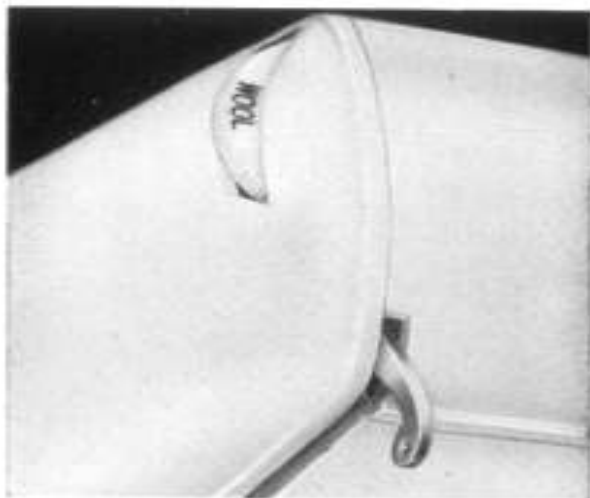

Fig. 15
Different fabrics need different pressures if they are to be machine-sewn correctly. To obtain the proper pressure, simply turn your Pace-setter's Calibrated Fabric Indicator (4) to the name of the fabric you are sewing. See Fig. 15.